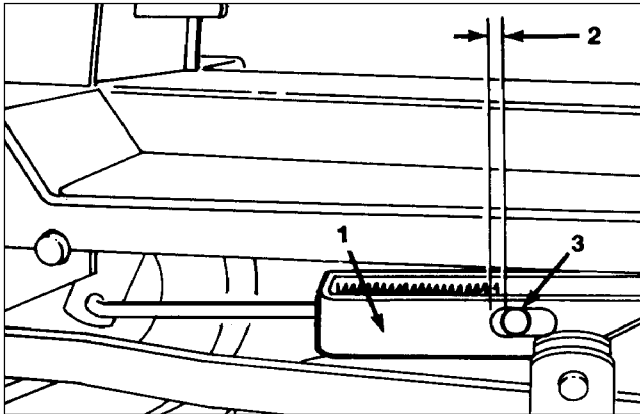

Figure 25
3. Rotate the adjustment rod until there is 0.060 inch (1.5 mm) or less between the end of the slot in the engagement bracket and the outer diameter of the pin (Fig. 25). It should not bottom in slot.